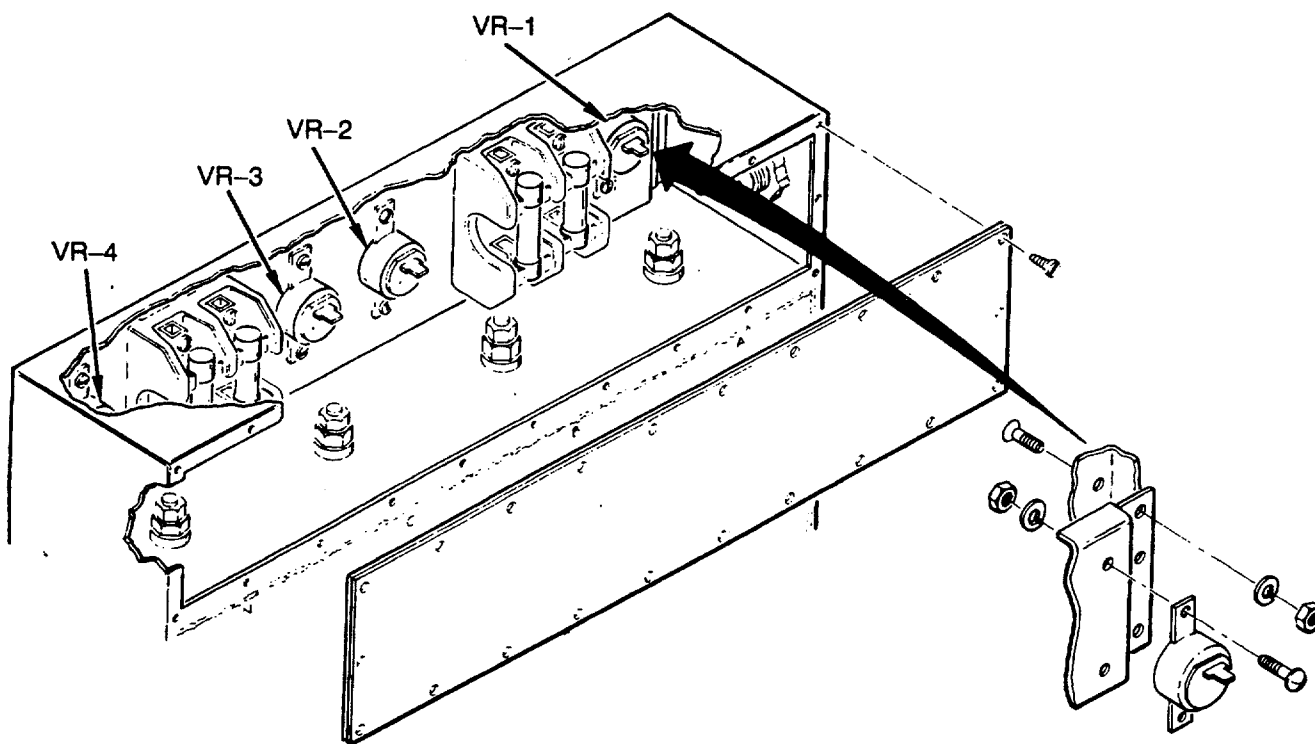

Figure 4-47. Varistors (VR-1 thru VR-4)
1. Check varistors for cracks, corrosion, loose electrical connections, and loose mounting hardware (see Figure 4-47).